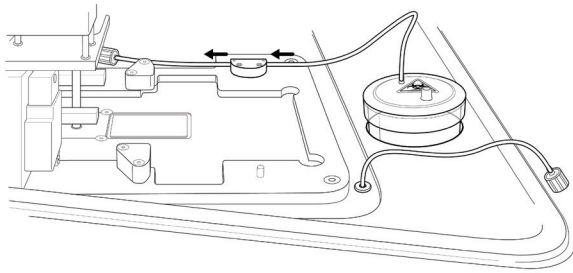

Fig. 16. Thread tubing through pinch valve.
- Thread tubing through the pinch valve (Figure 16).